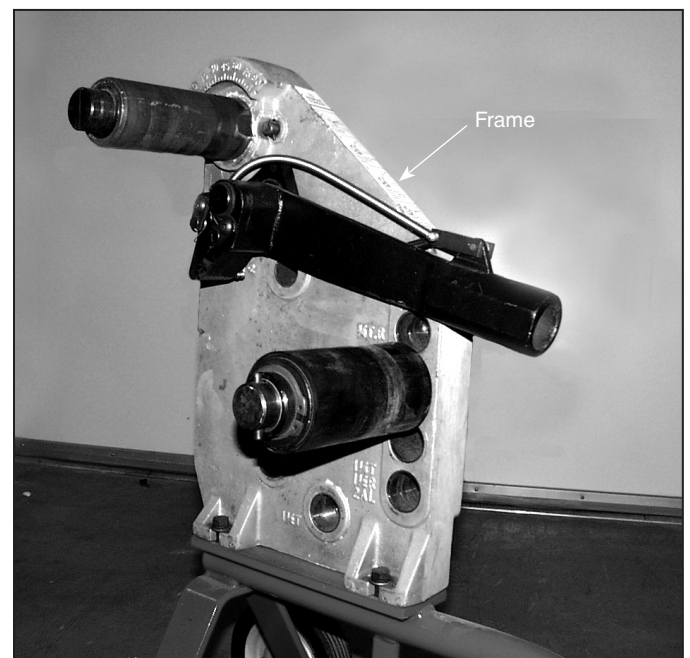

Fig. 4
4. Remove the hairpin cotter and washer from the pivot shaft, figure 4. Position the shoe on the shaft with the ratchet teeth facing the frame.